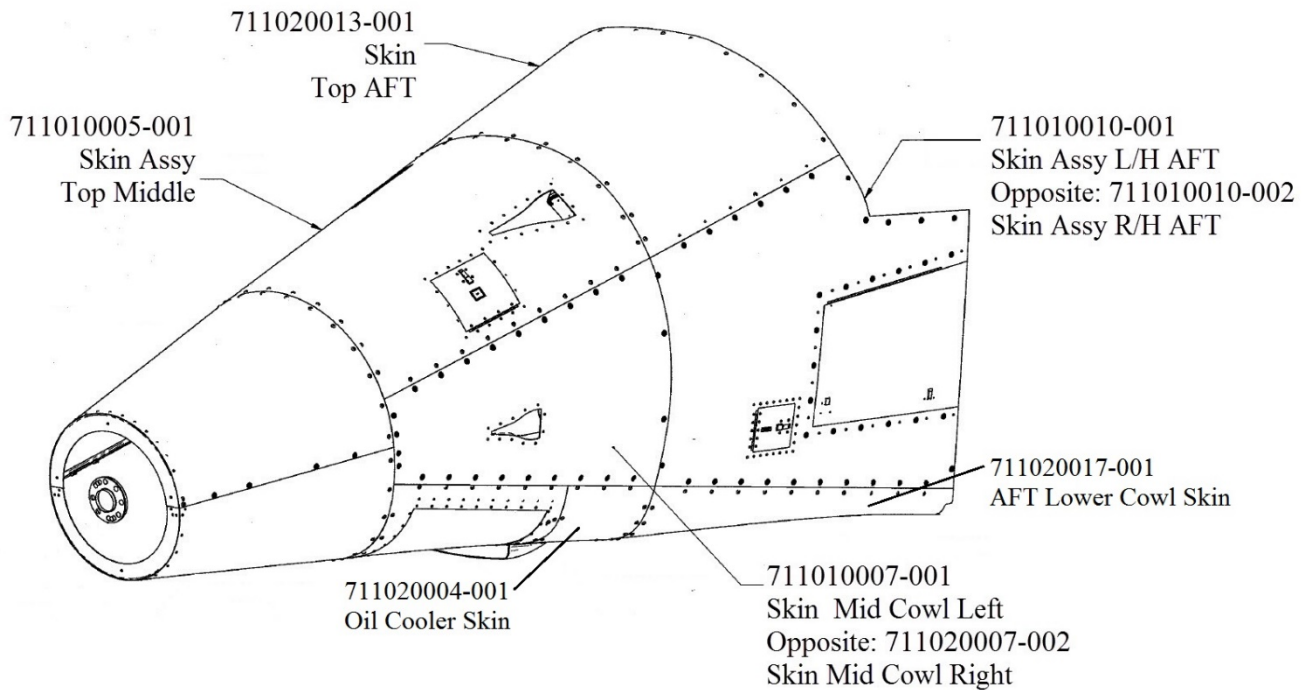

Figure 68-1
- Remove cowlings shown in Figure 68-1.
- Reinstall cowlings as shown Figure 68-1.